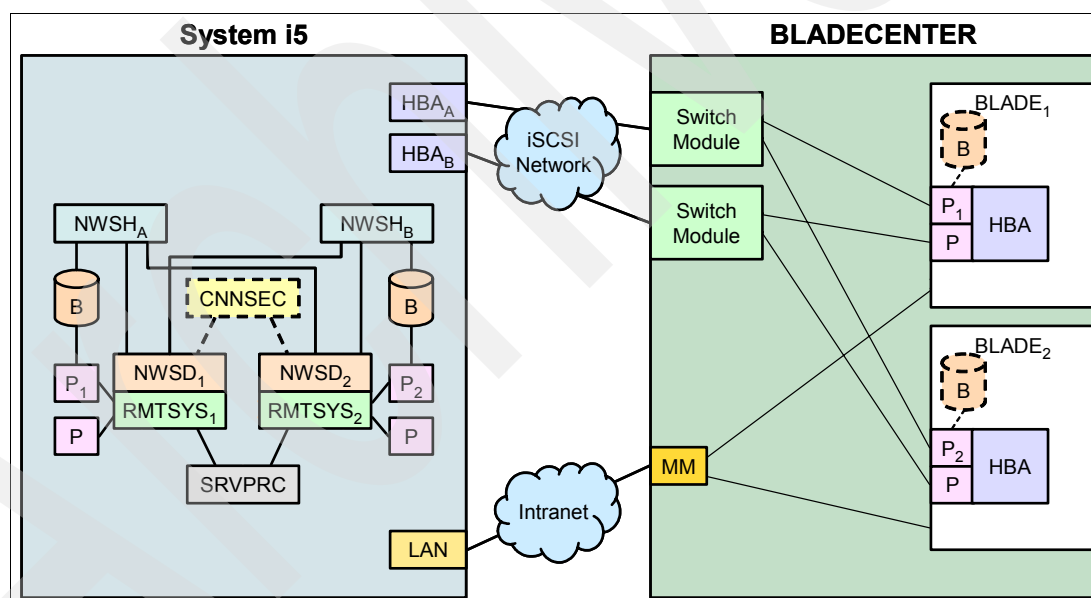

Figure 9-17 Configuration 2 : 2 : 4 : 1 : B
Figure 9-17 shows a configuration where you are not only splitting the workload on each of two Blade servers across two initiator HBA ports (as in 9.6.3, “Blade configuration 3: Adding bandwidth to a hosted server” on page 355), but you are also mixing and matching the storage space links and Virtual Ethernet LAN connections between two target HBAs. This configuration enables you to perform a measure of workload balancing across the target and initiator HBA ports.
In Figure 9-17, note the following points:
- ▶ One of the initiator HBA's ports on each Blade server must be identified as the boot port. The boot port is the initiator HBA port where the hosted server looks for a bootable disk drive, or in this case, a virtual disk containing the Windows operating system. For example, in Figure 9-17 on page 360, P₁ and P₂ have been specified as the boot ports in the RMTSYS configuration objects. If there were only one connected initiator HBA port in the hosted server, this port would automatically be deployed as the boot port.